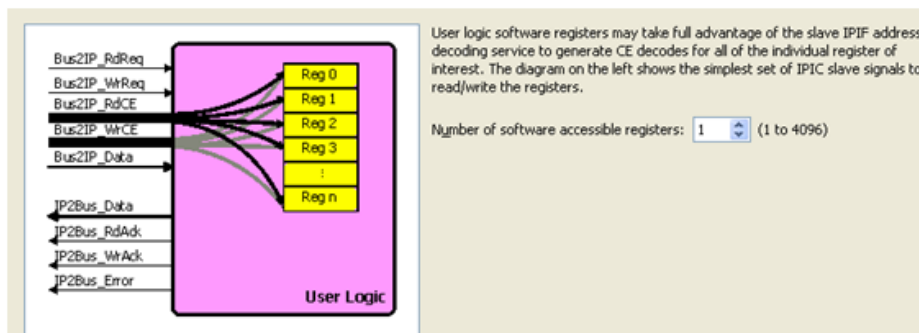

Figure 7. User SW Registers
- 2-2-2.** Click **Next**, accepting the default data width, and no burst and cache line support. Click **Next** to accept default number of registers (one) (see **Figure 7**).